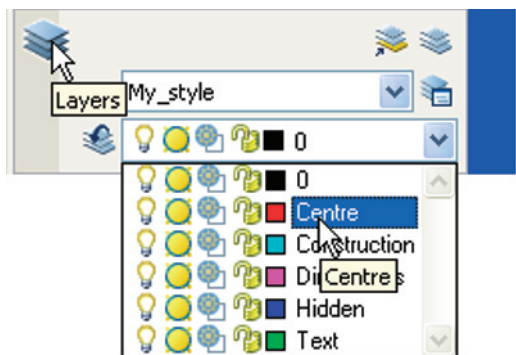

Fig. 7.5 Making the layer **Centre** current
- (a) In the **Layers** control panel, *click* the arrow to the right of the **Layers** field to show all layers set in the **acadiso.dwt** template on which the drawing has been constructed (Fig. 7.5).